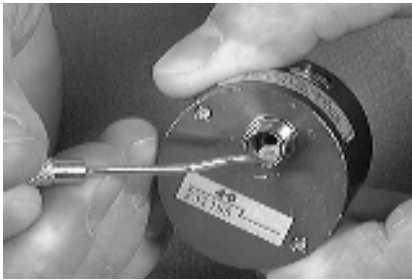

Figure 26: Removing the Filter Screen
- 5) Use a dental pick or similar tool to carefully remove the inlet filter screen from the flow control valve. Be careful not to scratch any part of the flow control valve inlet port when removing the screen (Figure 26).